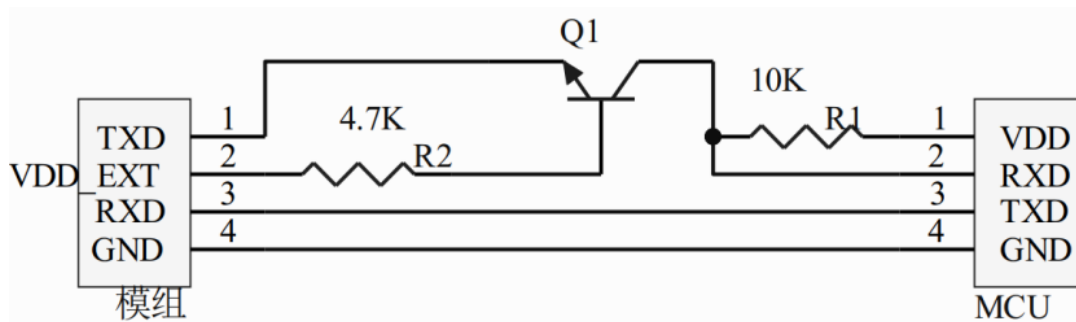

Figure 13 Serial port level conversion reference circuit
- 1) If the user connects the AT serial port RXD with WAKEUP outside the module, and the WAKEUP also enables the wake up function (the RXD of module serial port 1 itself has WAKEUP function), then the module RXD cannot use the triode level conversion circuit, otherwise there will be abnormal wake up and dormancy. The RXD pin of NB chip has an anti-inverted design, and the MCU TXD voltage range can be solved by the RXD direct connection with the module (shown in Figure 13) within 1.8~3.6V.